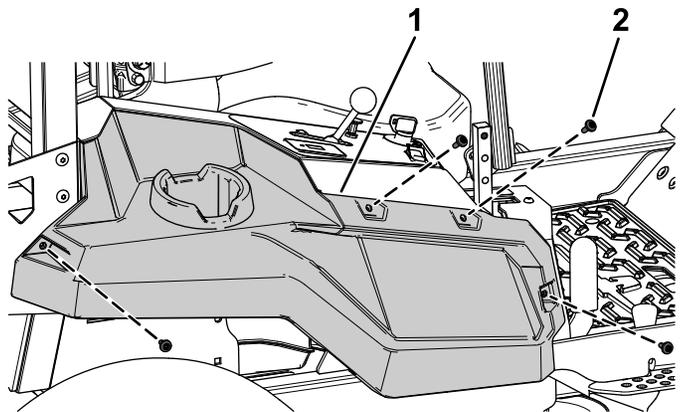

Figure 10
3. Remove the 4 shoulder screws securing the right side pod (Figure 10).
4. Remove the right side pod (Figure 10).
- Secure the right side pod using the previously removed 4 shoulder screws (Figure 10).